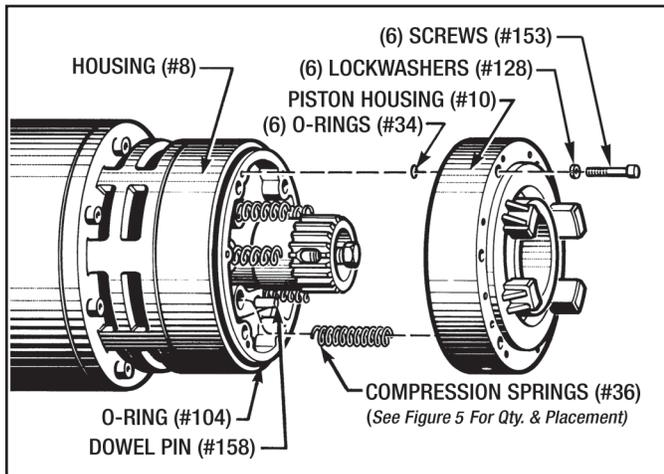

Figure 4 - Mounting Piston Housing Assembly
1. Lubricate the (6) O-Rings (#34) with Vaseline or equivalent and install them into the Piston Assembly (See Figure 4).
4. Carefully guide the Piston Housing Assembly into the mating diameter of the Housing (#8). See Figure 4 for the position of the brake lugs and the 1/4" NPT brake port. Orient the actuation port to the bottom. **Make sure the hole in the Piston (#3) is aligned with the Dowel Pin (#158).**
5. Using (6) Soc. Hd. Cap Screws (#153) and Lockwashers (#128) bolt the Piston Housing Assembly to the Housing (#8).